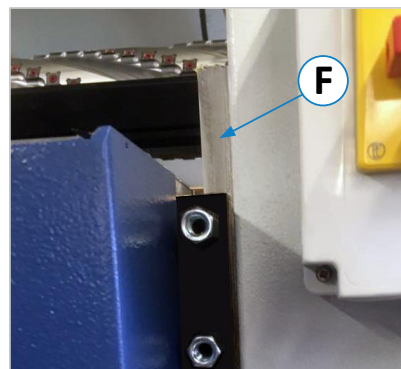

Figure 58: Grease lateral guides
- Lightly grease the two lateral guides (F) on the thickening table (front and back) every month (⇒ Figure 58).